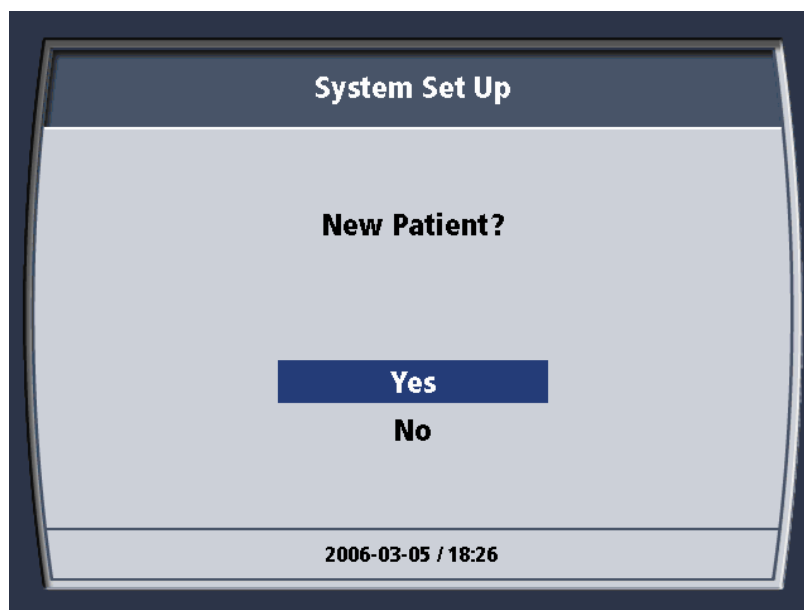

Figure 4-57. New Patient? Message.
2. If you select “**No**” and press the knob, you will continue to be presented with screens that allow you to select operating parameters for the System prior to entering Standby starting at Figure 4-57 – see below.